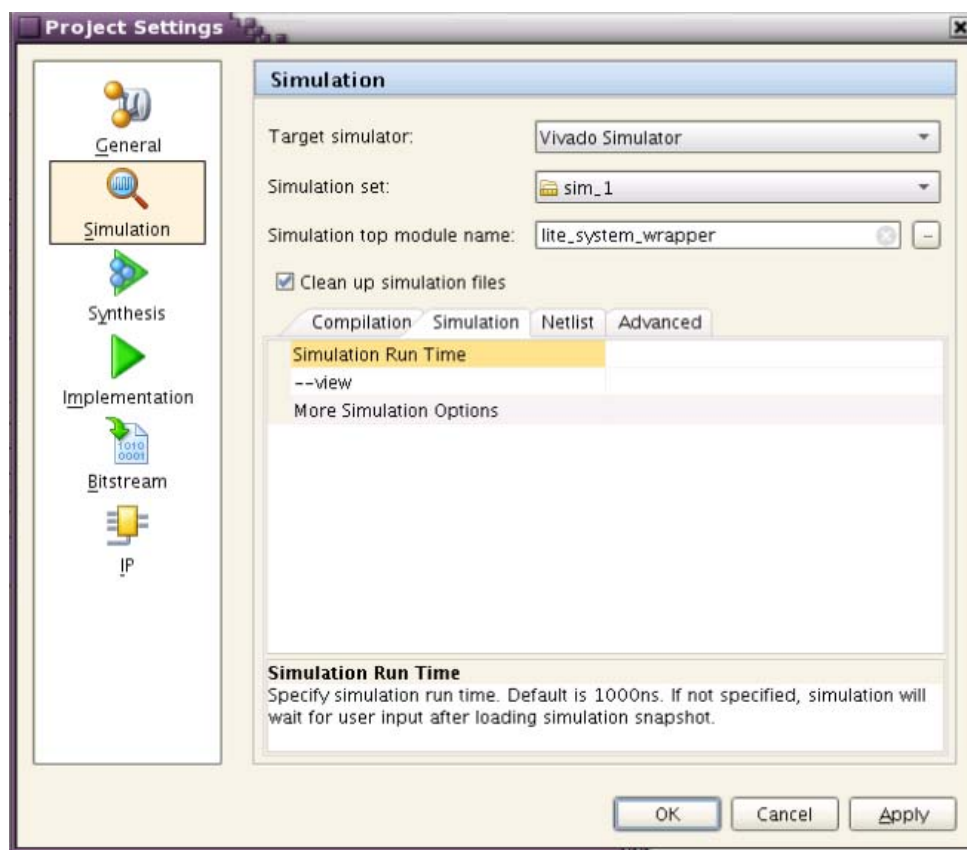

Figure 40: Project Settings Simulation Window: Run Time Option
4. On the Simulation tab, change the following value and click **OK** (Figure 40).